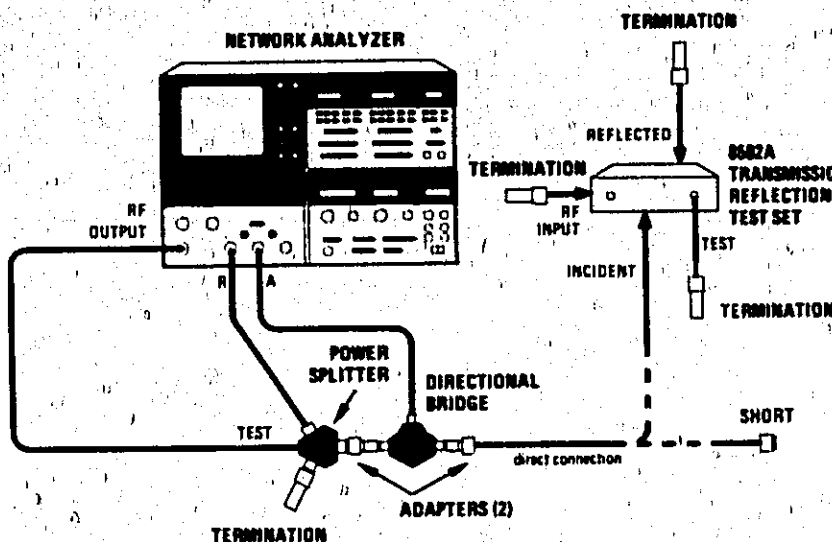

Figure 16. INCIDENT, REFLECTED, and RF INPUT Port Return Loss Test Setups
c. For INCIDENT port return loss measurements connect equipment as shown in Figure 16, Configuration A with no connection to mainline TEST port of Directional Coupler.
- (2) Read worst-case Return Loss from 8505A Signal Processor Channel 1 digital display. The indications should be  $\geq 25$  dB below the zero dB reference level for the frequency range 100 to 1000 MHz.
- j. To determine the INCIDENT port Return Loss for the frequency range 2 to 1000 MHz connect equipment as shown in Figure 16, Configuration B with LOAD port on Directional Bridge shorted. Set 8505A Frequency Control RANGE MHz switch to .5 - 130. Adjust FREQUENCY MHz START control to 002.0 and FREQUENCY MHz STOP control to 100.0.
- (1) On 8505A CRT display, push REF LINE POSN pushbutton and adjust CH1 control until trace is positioned to center of screen. Press REF LINE POSN pushbutton again to return system to normal operation.
- (2) Set 8505A Frequency Control MARKERS switch to 1 and adjust MARKER 1 control to center graticule.
- (3) On 8505A Signal Processor Channel 1 press DISPLAY MKR and ZRO pushbuttons to place MARKER 1 on reference line and to zero digital readout.
- n. For REFLECTED port Return Loss measurements repeat steps a — m, except directly connect the REFLECTED port to the Dual Directional Coupler (Figure 16, Configuration A) or the Directional Bridge (Figure 16, Configuration B) with RF INPUT, INCIDENT, and TEST ports terminated in 50 ohms. The worst-case Return Loss measurements should be: